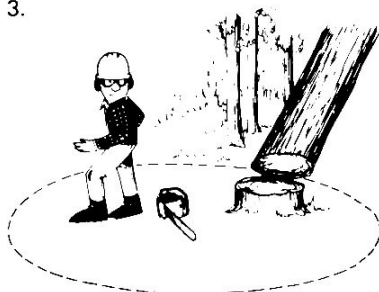

FIGURE 3
5. Never start cutting until you have a clear work area, secure footing, and a planned retreat path from the falling tree. See Figure 3.